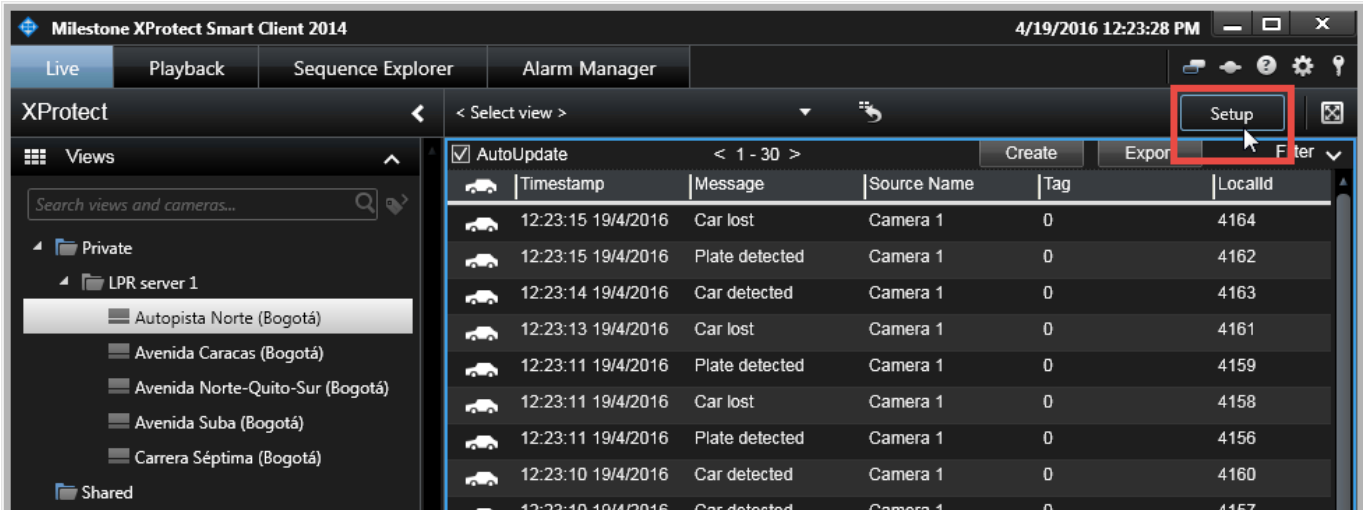

Figure 2: Switching to configuration mode
1. Click **Setup** button to activate **XProtect Smart Client** configuration mode. In this mode, the panels of the application would be highlighted yellow (Fig. 2).